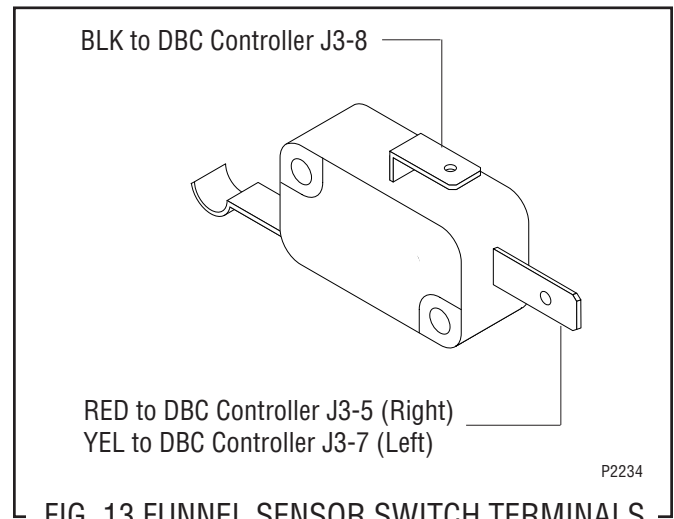

FIG. 13 FUNNEL SENSOR SWITCH TERMINALS
4. Refer to Fig. 13 when reconnecting wires.